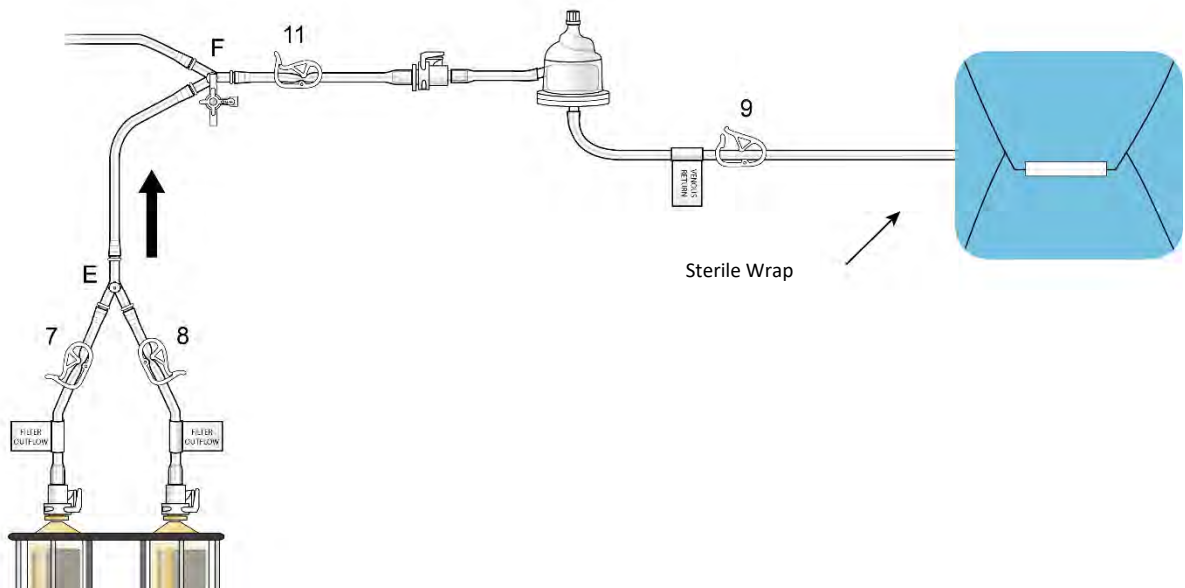

Figure 18
- (c) Attach the female to the male quick connector (push and click) located by outlet clamp (11), as shown in Figure 18. Position the bubble trap in the bubble trap holder higher than filter cartridges.